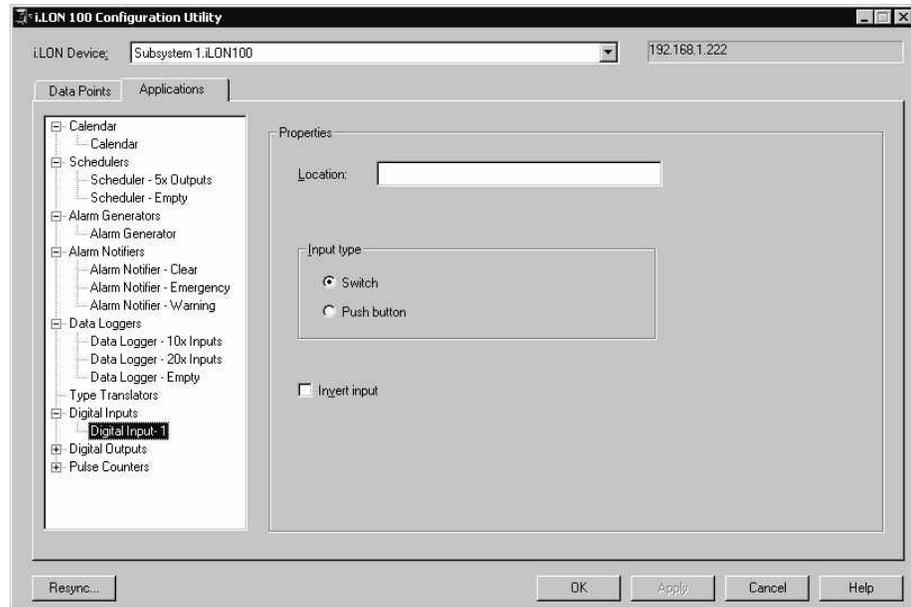

Figure 8.3 Digital Input Tab
7. Enter the IP address of the *i.LON 100* server and then click **OK**. The Digital Input tab opens, as shown in Figure 8.3.